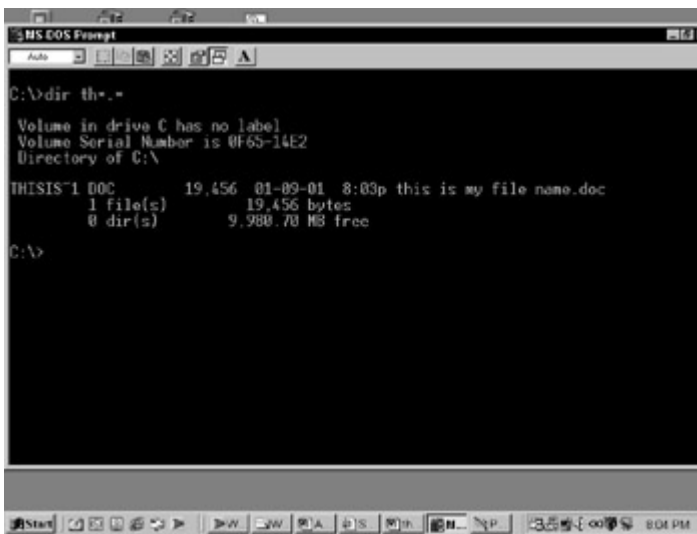

Figure 20-1: Long filenames (LFNs) also carry DOS filenames for backward compatibility.
- 1 **Instant Answer** Each LFN has a DOS 8.3 (8 filename characters and 3 file extension characters) file name alias that consists of the first six characters of the LFN followed by a tilde (~) and a number that increments for multiple occurrences of filenames with the same first 6 characters. For example, the long file name THIS IS MY FILE NAME.DOC has an 8.3 alias of THISIS~1.DOC, as illustrated in Figure 20-1 .